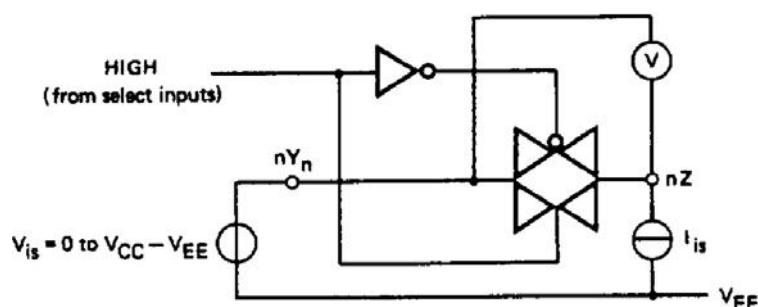

Fig. 8 Test circuit for measuring R_{ON}
* 2. For test circuit measuring R_{ON} see Fig.8